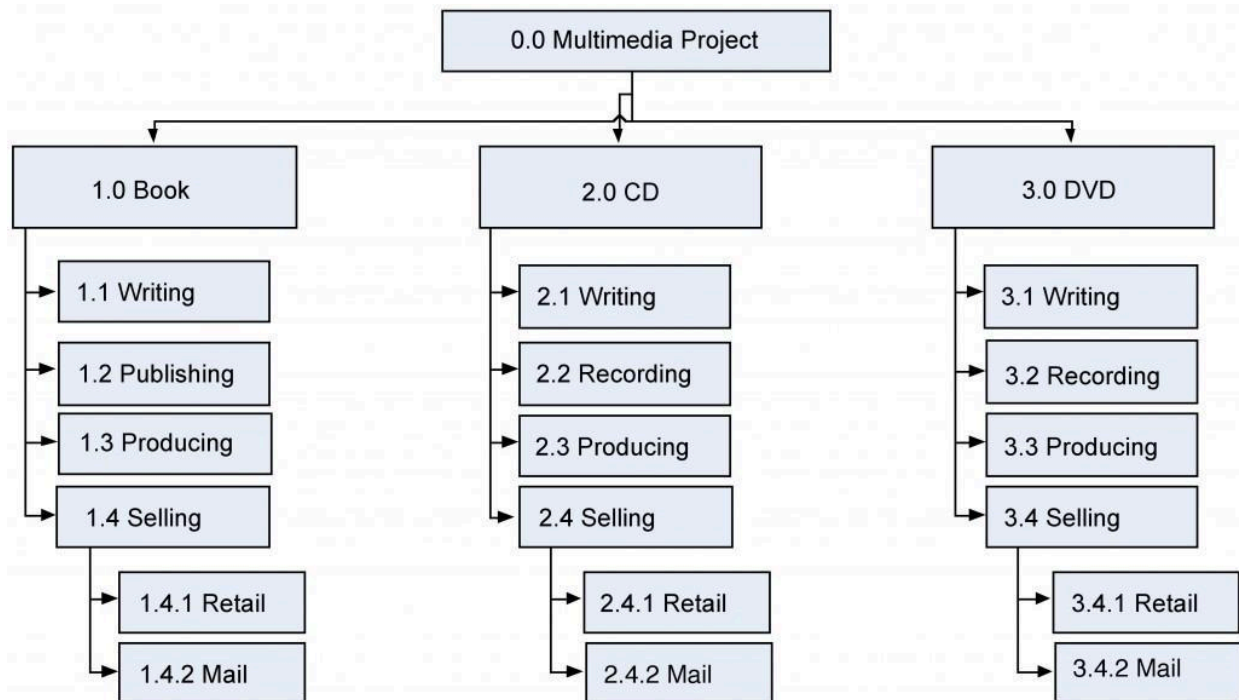

Figure 8.4: A WBS for a multimedia project
There are also many ways you can organize the WBS. For example, it can be organized by either deliverable or phase. The major deliverables of the project are used as the first level in the WBS. For example, if you are doing a multimedia project the deliverables might include producing a book, CD, and a DVD (Figure 8.4).
- Figure 8.4 Multimedia Project WBS © Barron & Barron Project Management for Scientists and Engineers is licensed under a CC BY \(Attribution\) license